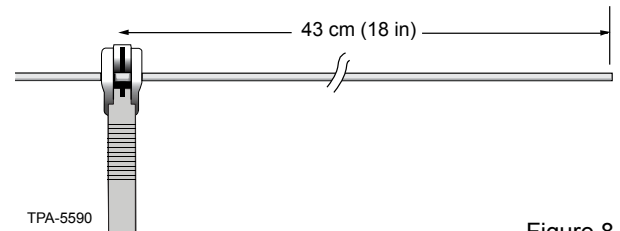

Figure 8
Step 1: Insert the buffer tube into the 1.0 mm opening of the Ripley FTS-005 tool (Figure 7) approximately 45 cm (18-in) from the end of the tube as shown in Figure 8.